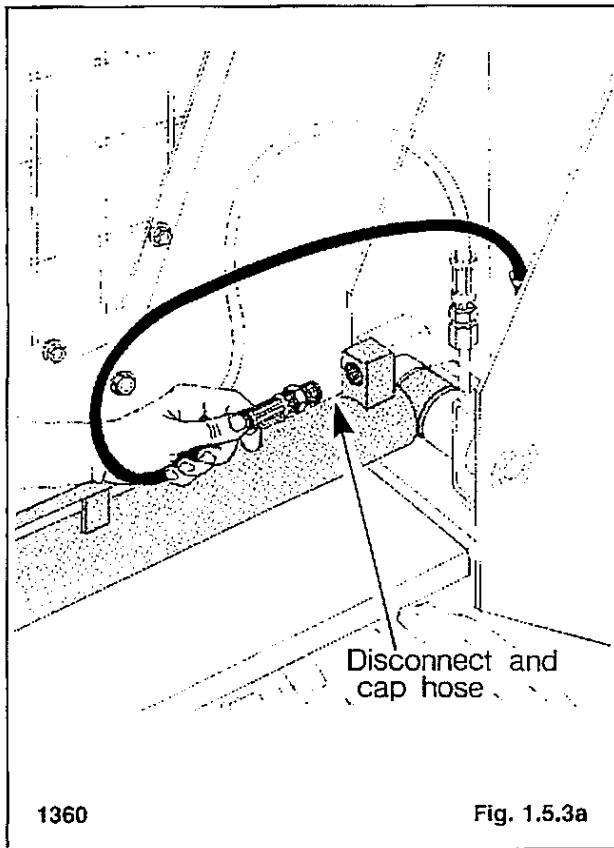

Fig. 1.5.3a
3. Disconnect the hydraulic hose from the boom cylinder rear port (fig. 1.5.3a). Cap the hose.